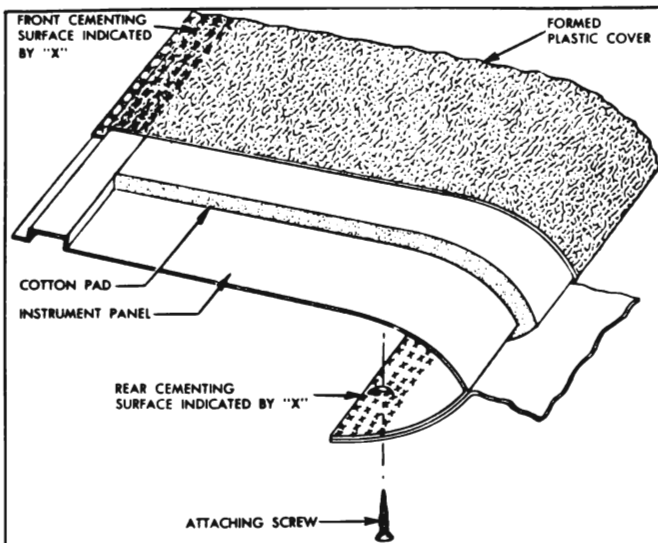

Figure 13-22—Instrument Panel Upper Cover Installation
CAUTION: Unless required, do not remove cotton or rubber pads from panels. See Figure 13-22.
3. Apply trim cement to cementing surfaces of cover and panel. This includes application of trim cement to peak lines of covers and corresponding surfaces on panels. Allow cement to dry for several minutes. See Figure 13-22.
surfaces firmly to obtain a good bond. See Figure 13-22.
5. Position cover on center panel. Line up radio speaker grille opening and peak of cover with panel and press cover material firmly to place. Then align and secure front, rear, and side sections of cover as shown. Install radio speaker grille. See Figure 13-22.